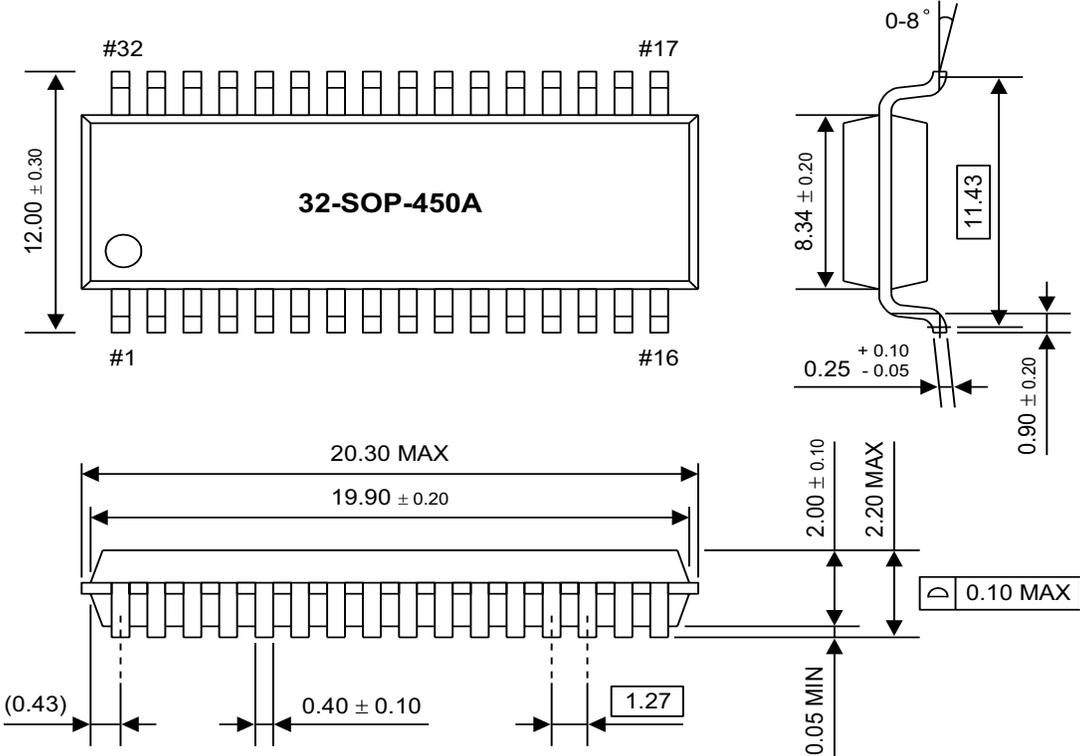

Figure 99. 32-Pin SOP Package Dimensions
► **Note:** In Figure 99, dimensions are in millimeters.